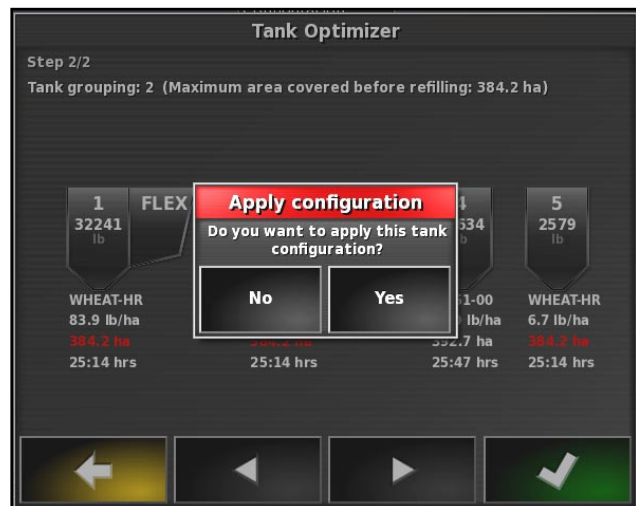

Figure 8.15 - Apply Configuration
7. Once you find a configuration that will fit your needs, select green check mark to accept it. X30 console will ask if you would like to apply this configuration, refer to *Figure 8.15*.